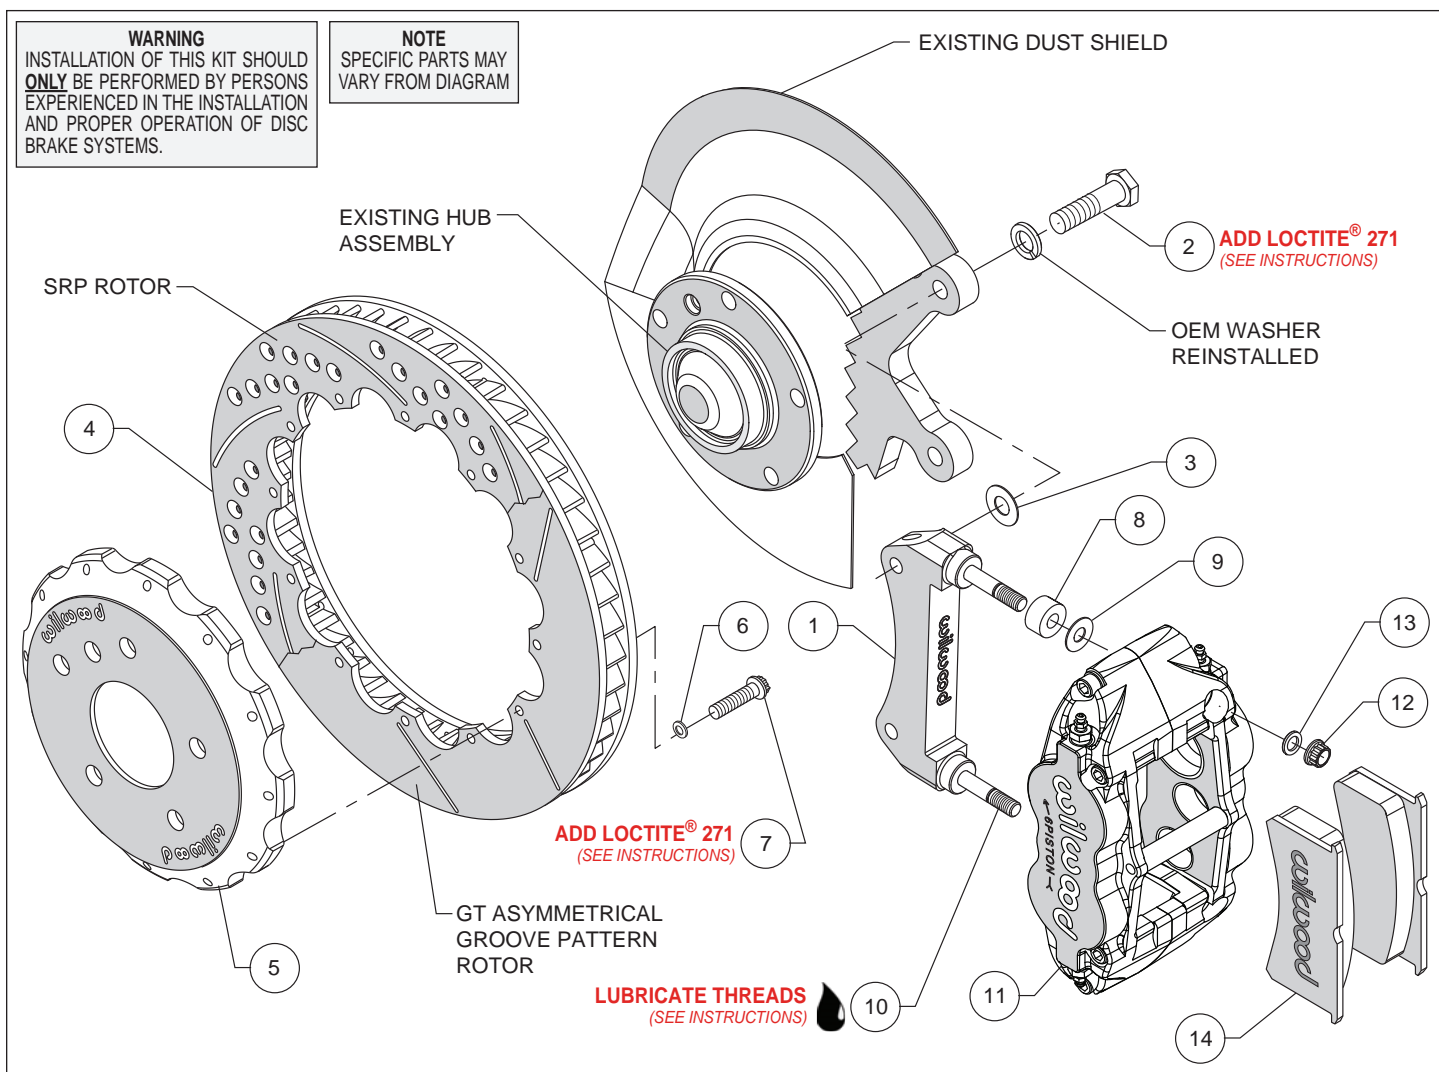

Figure 1. Typical Installation Configuration
- NOTE:** This kit contains distinct right and left hand calipers that must be mounted in a specific direction, as described below. Lubricate the caliper mounting studs (10) with lightweight oil. Initially place one .035" thick shim (9) and spacer (8) on each stud as shown in Figure 1. Mount the caliper (11) onto the bracket (1) using lock nuts (12) and washers (13), Figure 1. Ensure that the caliper is mounted so that the largest pistons are at the rotor exit end of the caliper, in relation to the direction of rotor rotation. Temporarily tighten the lock nuts and view the rotor through the top opening of the caliper. The rotor should be centered in the caliper. If not, adjust by adding or subtracting shims (3) between the bracket and the upright. Always use the same amount of shims on each of the two mounting bolts. Once the caliper alignment is correct, remove the bracket mounting bolts one at a time, apply red *Loctite*® 271 to the threads, and torque to 60 ft-lb.